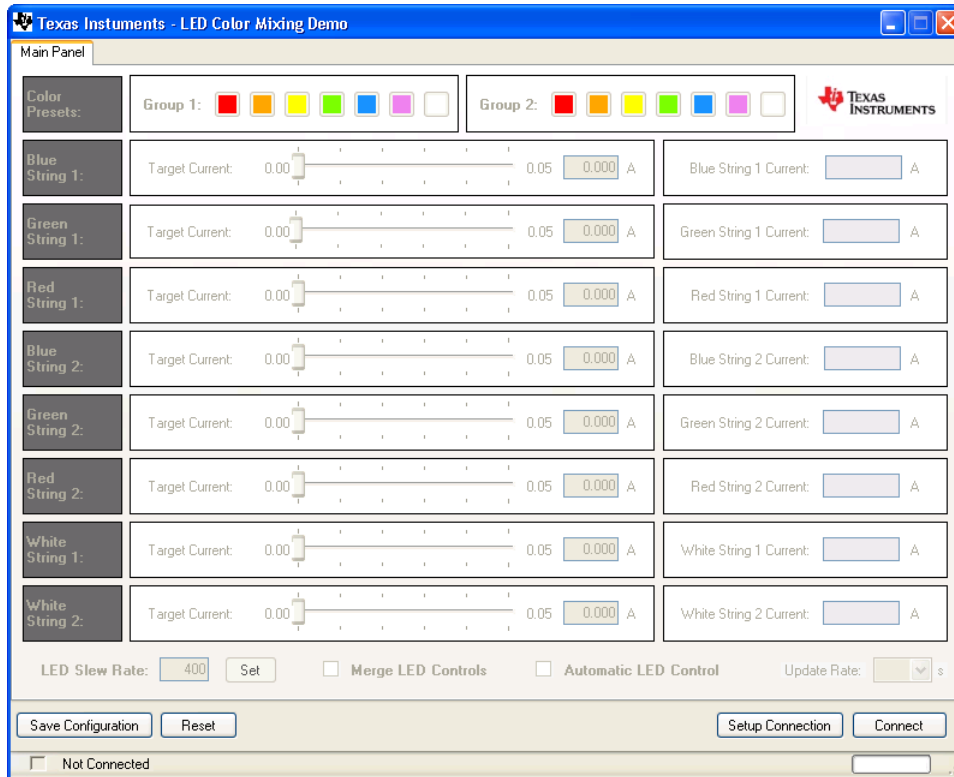

Figure 7. The Multi-DC/DC Color LED Kit GUI
1. Browse to *LED-ColorMix-GUI[R1].exe* and run the GUI. The program shown in Figure 7 should appear.